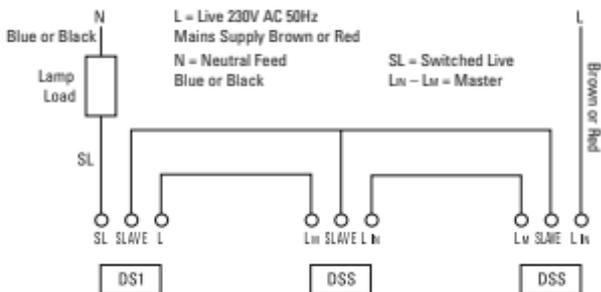

Fig 8 – Replacement Delay Switches fitted to circuit shown in fig. 6
- Further DSS's can be added to replace any further intermediate switches in the system. If there are no intermediate switches (2 way switching) the before and after connections for both systems are shown in figs 8 to 11. Note that an in-line connector is required for the Strapping Cable System to provide continuity for the SL connection.